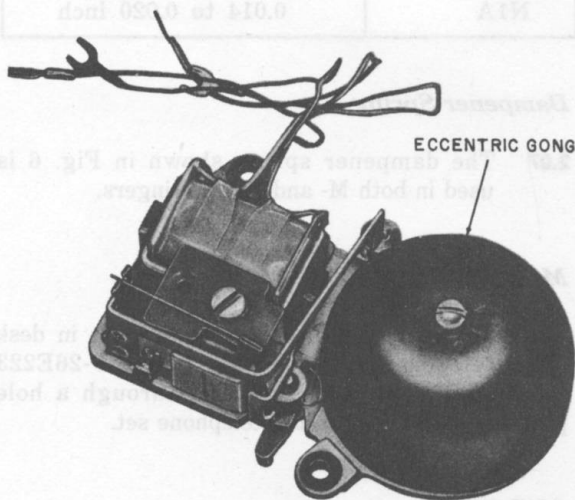
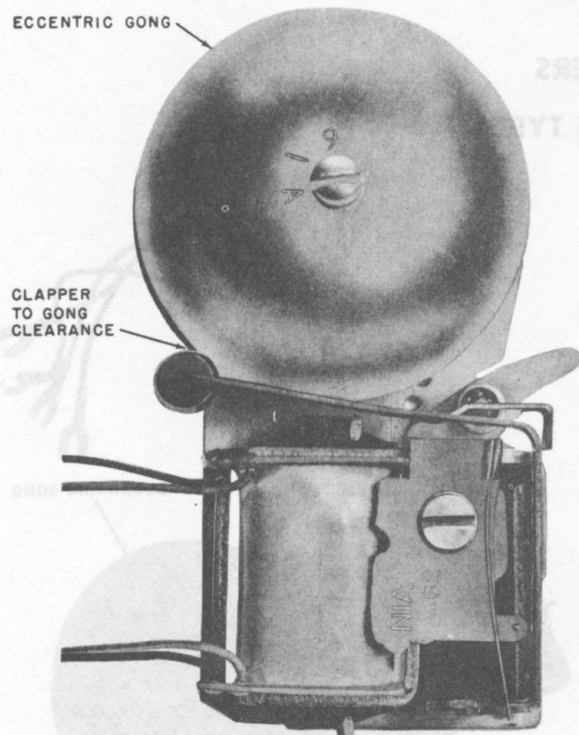

Fig. 1—♦M1A and M1B Ringer♦
Fig. 3—N1A Ringer
2.01 ♦The M-type (Fig. 1 and 2) and N-type (Fig. 3) ringers are high-impedance, single-coil, single-gong ringers. The coil on the M1A, M2B, and N1A has four spade-tipped leads for use where tip-party identification is required (Fig. 4). Where tip-party identification is not involved, the two-lead M1B ringer can be used.
2.05 The 61A gong used in these ringers is eccentric (Fig. 1 and 2). The resonator is built in and needs no adjustment. Table A shows clapper to gong clearance.